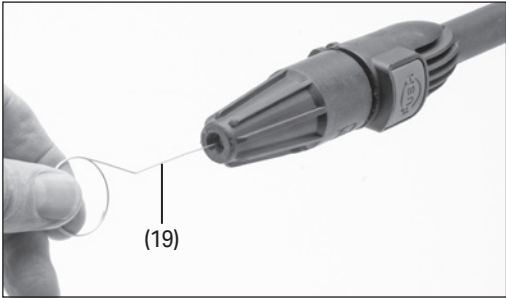

Fig. 25
8.2 Using the Cleaning Pin (Fig.25)
- Use the cleaning pin (19) supplied to remove debris and foreign matter from the nozzles.